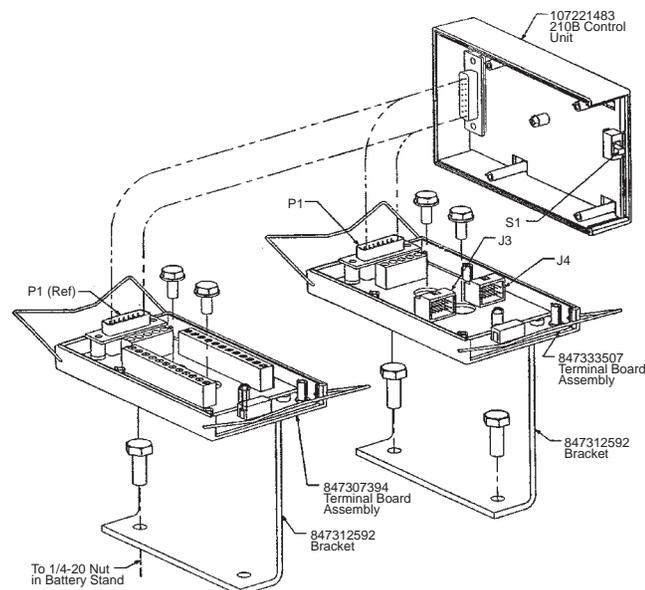

Figure 2-1: 210B Control Module and Bracket
Figure 2-1: 210B Control Module and Bracket	2 - 1
2. Attach the base to the VR module bracket with the 10-32 screws.(See Figure 2-1).
9. Mate all 210B control units (except the last one in the daisy chain) to their respective bases (see Figure 2-1). Latch the two units together with the clips on the base.